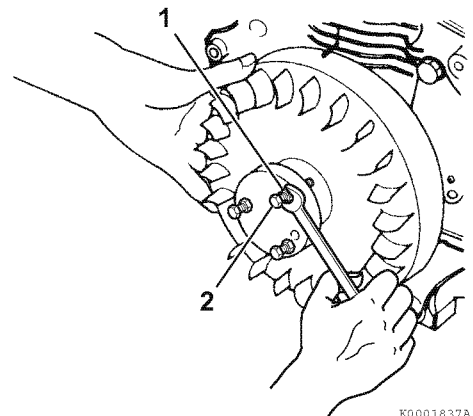

Figure 9-14
6. Assemble the flywheel puller by threading one nut on each screw (2, **Figure 9-14**) all the way to the screw head.
11. Tighten each upper nut (1, **Figure 9-14**) evenly in a cross pattern to apply tension to flywheel, keeping puller plate parallel to flywheel. Alternately continue to tighten upper nuts until flywheel comes loose from crankshaft. If necessary, lightly tap on the center of the puller plate to assist in “popping” the flywheel loose from the crankshaft.